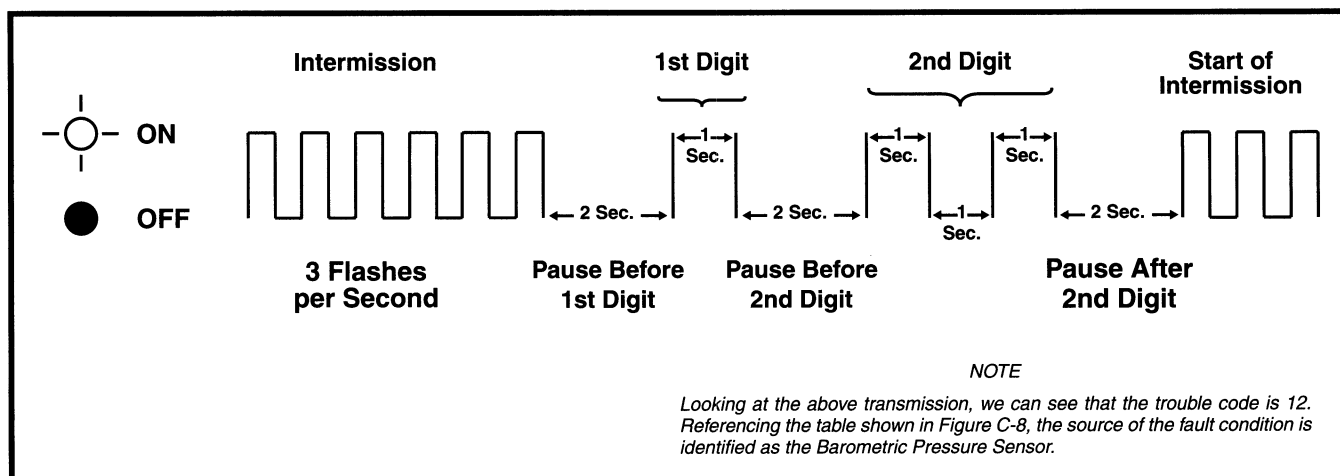

Figure C-7. Check Engine Lamp Diagnostics Timing Diagram
2. All trouble codes are sent out as a series of flashes. See Figure C-7.